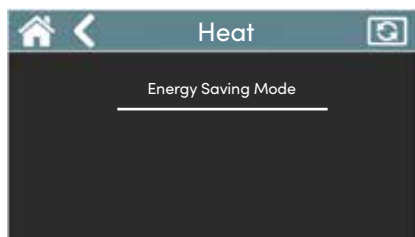

Figure 1
- Press to Display the Energy Saving Mode screen Figure 1.